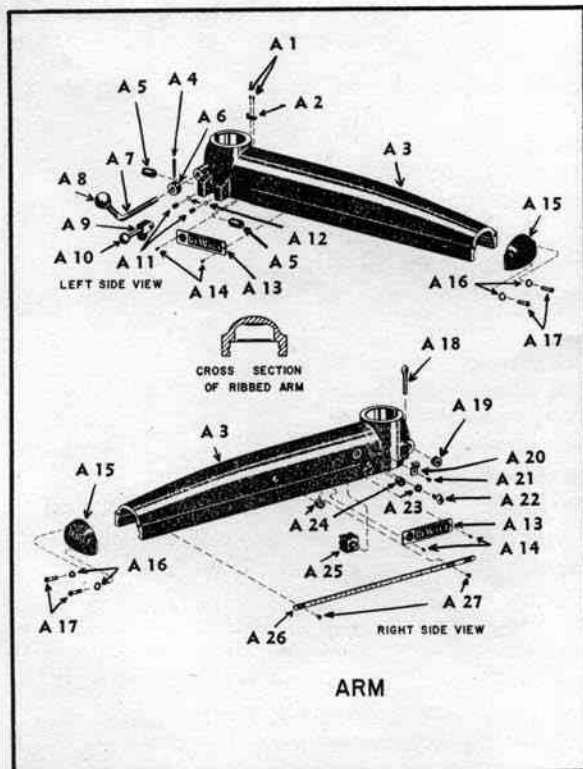

Figure 7
9. ADJUSTING CROSS CUT TRAVEL WITH GUIDE FENCE (Figure 7, Page 10)